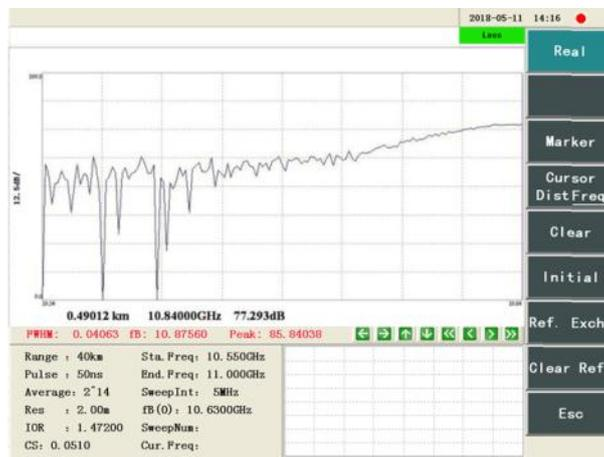

Figure 9-4 Starting and ending frequency deviated to the left
2. When the initial and ending frequencies are deviated to the left, the Brillouin spectrum shown in Figure 9-4 will appear.